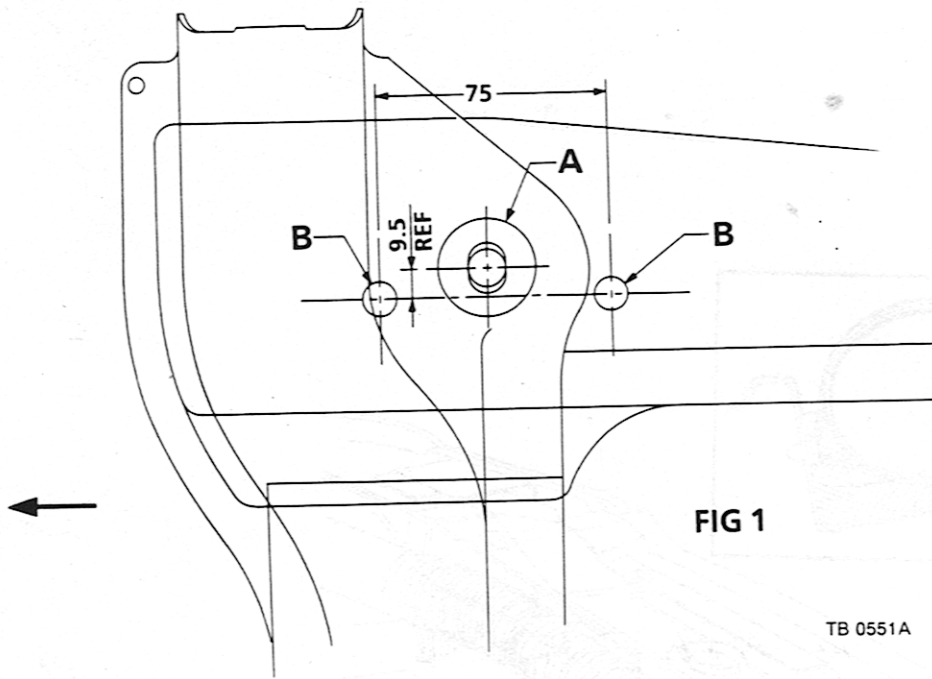

FIG 1
- 1 View front subframe from the underside and locate the 2 existing large holes, one either side of the subframe. See 'A' in fig. 1.
- 2 To locate the skids, two smaller 11mm holes on each side of the subframe are also required, one in front of the large hole and one behind. See 'B' in fig. 1. One of these holes already exists on each side and the other must be drilled in position shown in fig. 1.